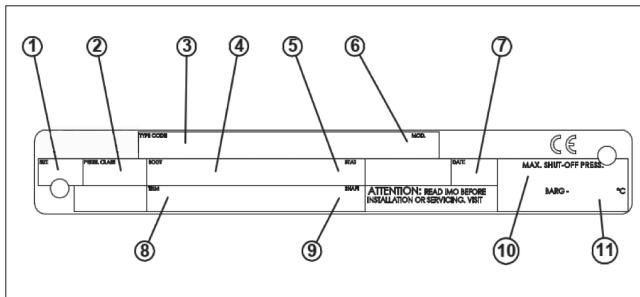

Fig. 2 Identification plate
Body markings are cast on the body. The valve also has an identification plate attached to it (see Figure 2).
3. Before installing a closed valve in the pipeline, be sure that the handle or actuator is attached so that a counter-clockwise rotation, viewed from above, opens the valve (See Figure 2). Fully close the valve again before installing in the pipeline.